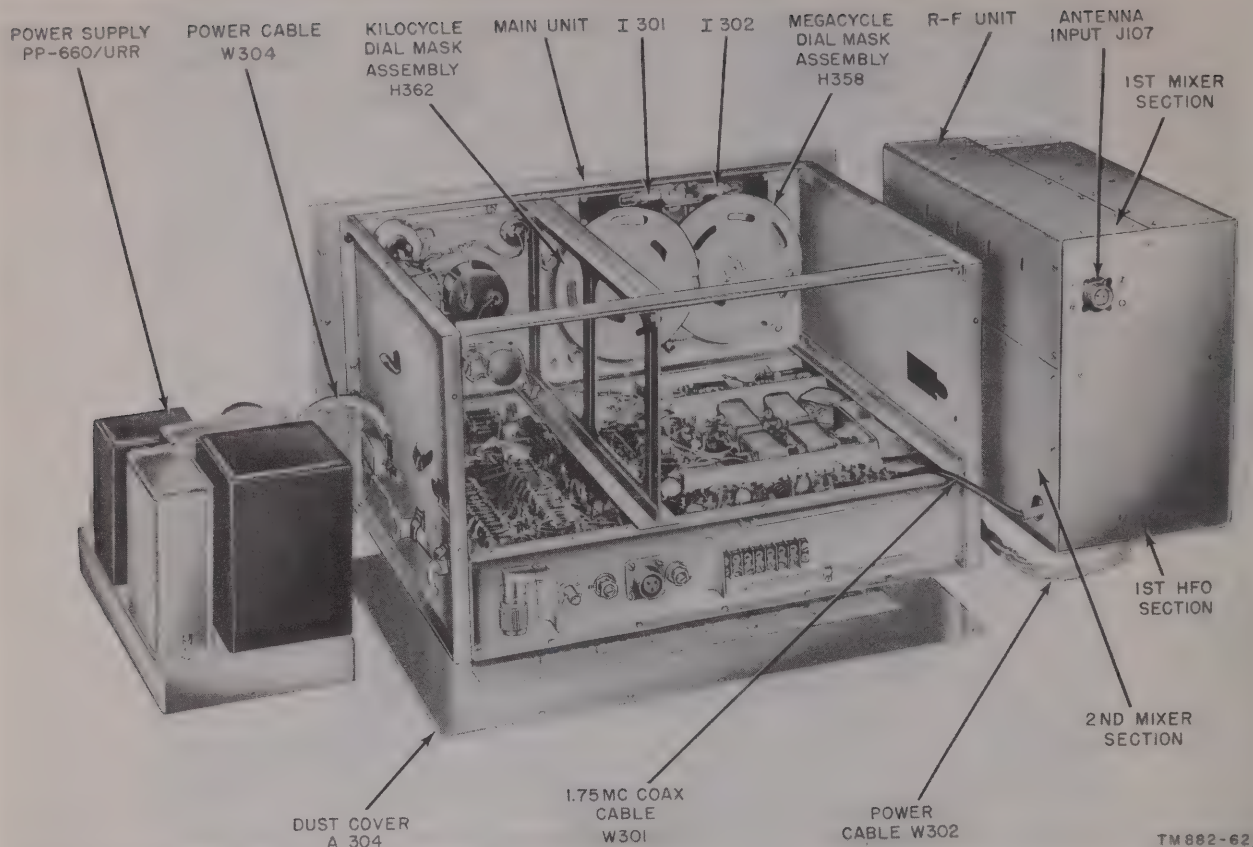
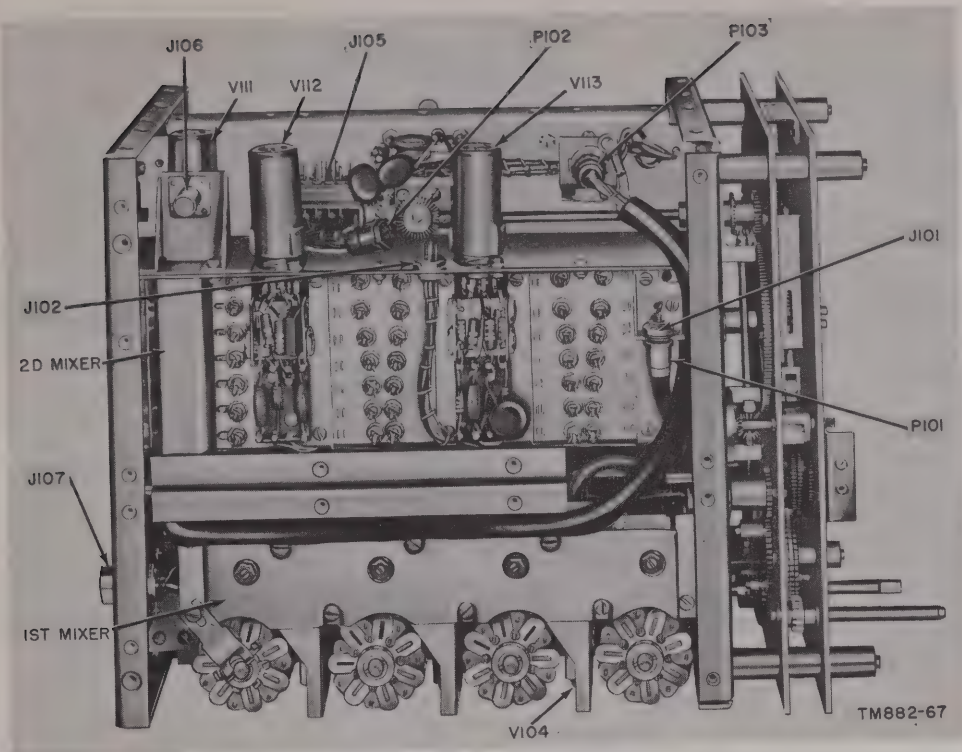
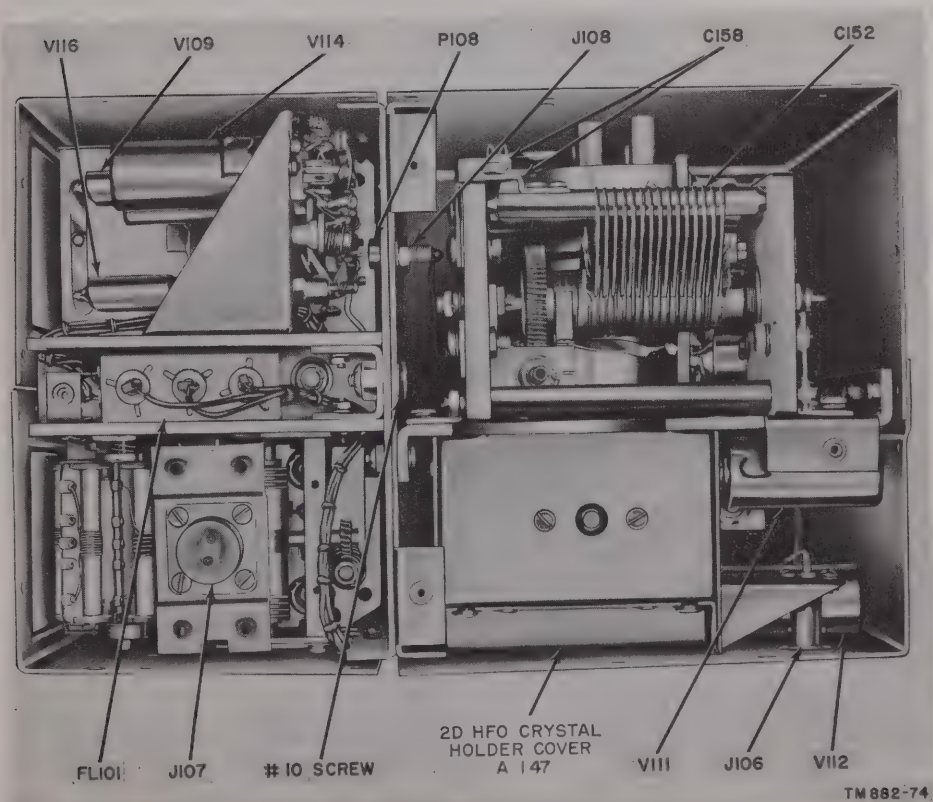

Figure 101. Radio Receiver R-220/URR, with rf unit and power supply removed.
Figure 102. Rf unit, bottom view.
Figure 103. Radio Receiver R-220/URR, rf unit, rear view.
- (4) Free the coaxial cable from the rf unit, drawing it down through the opening in the main unit.
- (5) Slide the rf unit completely out of the main unit (fig. 101).
b. Removal of Dust Covers (fig. 101). The rf unit contains the first hf oscillator section, first mixer section, and the second mixer section. All band selection and tuning of the received signal is done in the rf unit. The rf unit is shielded on all sides by dust covers, but most adjustments that apply to the rf unit can be made through small holes in the covers of the several sections without removing the covers. For changing tubes and making minor replacements, it is also possible to remove one cover to gain access to a given section without disturbing the covers of the other sections.
- (1) Remove the screws that fasten the cover over the first mixer section.
- (2) Remove the screws that fasten the covers over the second mixer section.
- (3) Remove the screws that fasten the first hf oscillator section cover to the rear cover.
- (4) Remove the remaining screws on the first hf oscillator section cover.
c. Removal of Rear Cover (fig. 101).
- (1) Remove the four No. 4 flat head screws holding the rear cover to the frame.
- (2) Remove the four No. 6 flat head screws that hold the antenna input connector bracket.
- (3) Remove the rear cover.
d. Removal of Second Mixer Section (fig. 102 and 118).
- (1) Disconnect second mixer section power plug 102 from J102.
- (2) Disconnect plug P101 from J101.
- (4) Tilt the back of the chassis up and then draw the assembly up away from the base plate.
- (5) Replace the second mixer section by reversing the above procedure.
- e. *Removal of First Mixer Section* (figs. 102 and 101).
- (1) Disconnect plug P101 of the first mixer section from jack J101 of the second mixer section.
- (2) Disconnect P108 from J108 of the first hf oscillator section by using a long thin screwdriver to pry up on the shoulder of the plug (fig. 103).
- (3) Remove plug P103 from jack J103. Bend the cable clamp that holds the power cable to the control head bearing plate and pull the cable out so that it is hanging free.
- (4) Remove the No. 10 screw that fastens the rear of the first mixer section to the frame of the rf unit (fig. 103).
- (5) Remove the No. 6 screw that holds the front of the first mixer section to the control head bearing plate.
- (6) The first mixer section may now be removed from the rf unit by sliding it back and away from the base plate.
- (7) To replace the first mixer section, reverse the order of instructions given above.
f. Assembly of Control Head. When replacing the individual assemblies on the control bearing plates, reverse the instructions given for their removal. To reassemble the control bearing plates, proceed as follows and refer to figures 101, 106, 122, and 123.
between the plates. Engage spring-loaded gears H1 and H4 with rf even band dial driver gear B1 and spring-loaded gears C1 and C4 with assembly A. Make sure that all gears are properly engaged; then remove the locking device on the spring-loaded gears. Slide bearing plate alignment bars DD1 through spacer posts DD2 and bearing plates AA, BB, and CC, and fasten them at the rear of control bearing frame No. 3 assembly CC with hexagonal nuts DD6 and lockwashers DD5. Figure 103 shows an overall view of the control head assembled.